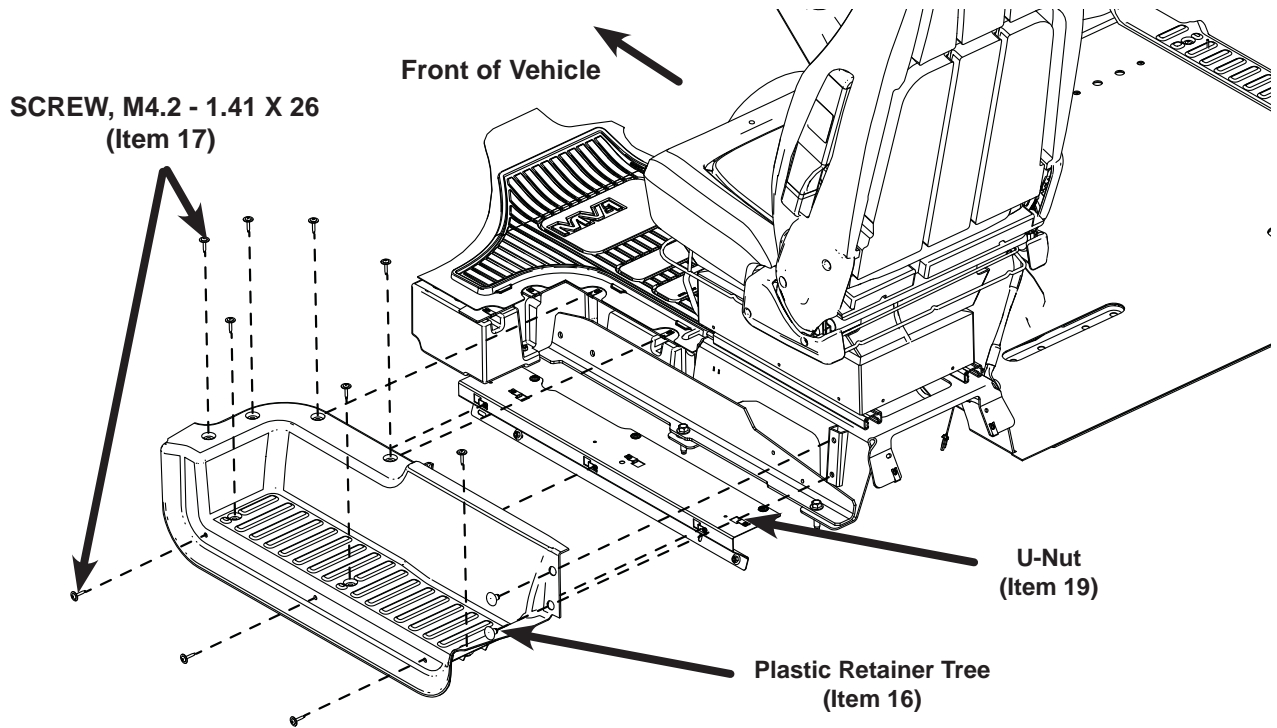

Fig. 3
5. Remove Driver sill plate, using - T20 Torx Bit. Remove and discard (2) Retainer - Plastic Tree located at rear of sill plate using forked pry tool. Retain all (10) SCREW M4.2 - 1.41 x 26 for reinstall. See Fig. 3